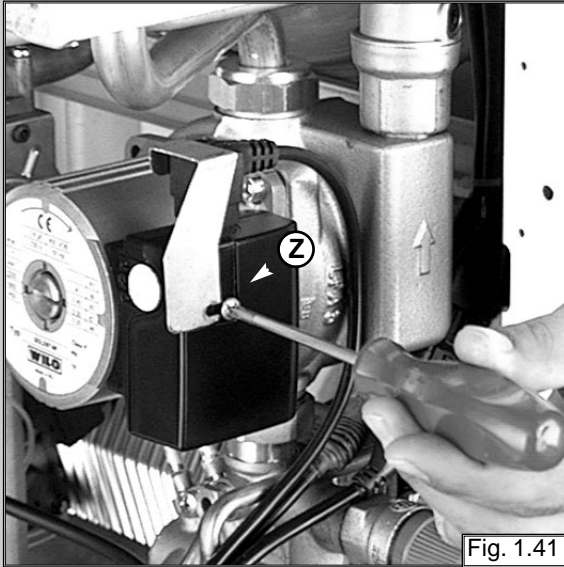

Fig. 1.41
1. Unscrew "Z" and remove the electrical connection (see fig. 1.41);